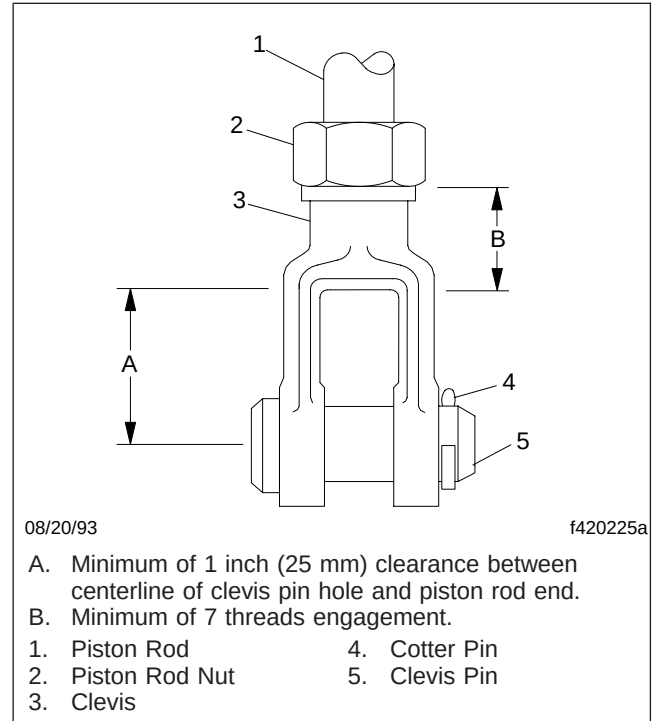

Fig. 3, Piston Rod Engagement With the Clevis
3. Observe the piston rod engagement with the clevis. Engagement of at least 7 threads is required; there should be 1-inch (25-mm) clearance from the centerline of the clevis pin hole to the end of the piston rod. See Fig. 3. Adjust if needed.